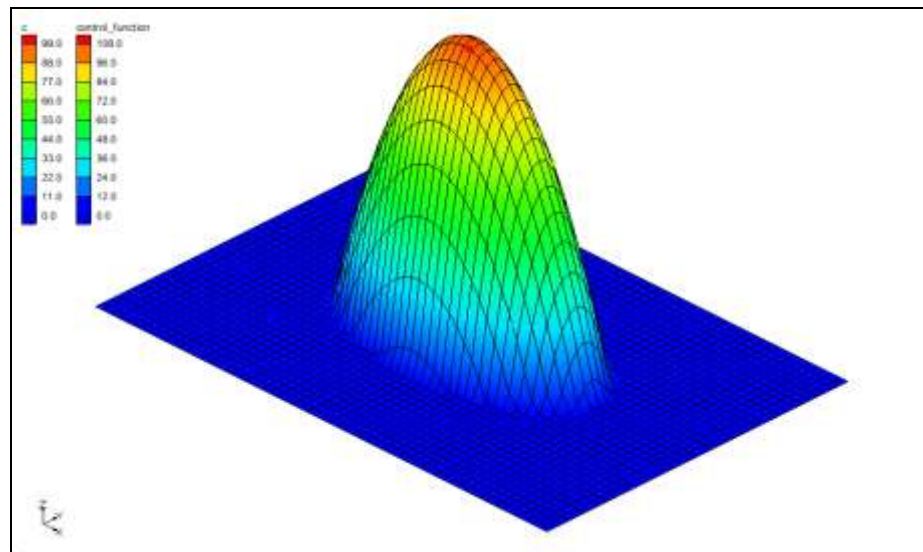

Figure 22 2D grid with interpolated values
8. Select “geos2d.gpr” and click **Open** to import the file and close the *Open* dialog. The Graphics Screen will now appear similar to Figure 22, showing a 2D grid.